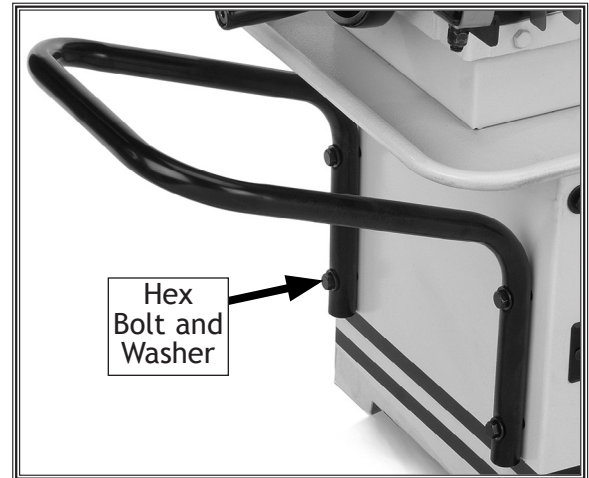

Figure 12. Installed handle.
2. Align the handle mounting holes with the bandsaw holes, and install the 5/16"-18 x 1-1/4" hex bolts, washers, and nuts (see **Figure 12**).